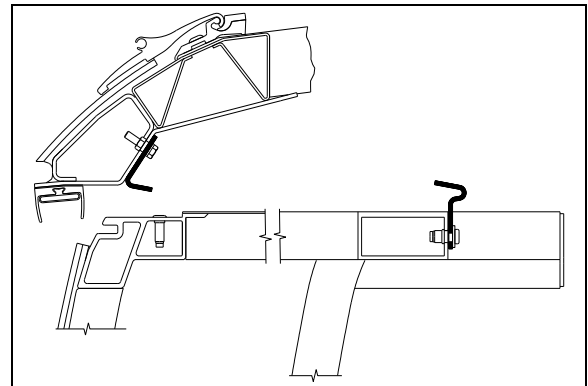

FIGURE 37: ROOM 2" INSIDE - UPPER SECTION VIEW
Do not retract slide-out room too far in. Retract just past the wiper seal. (Figure 37)
4. Using the manual override procedure, move the slide-out 2" inside the vehicle, just so the seal becomes accessible from the outside (Figure 37).
5. Once completed, use the manual override procedure to extend the slide-out to reinstall the exterior extrusion. Apply appropriate sealant on the exterior extrusion screws and between the extrusion, the roof and the edges to prevent water infiltration (Figure 37).